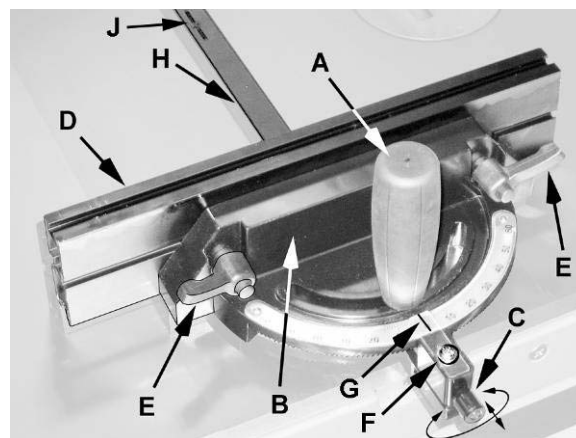

Figure 14
Referring to Figure 14:
The *extension plate* (D, Figure 14) can be adjusted by sliding to the right or left or removed entirely.
1. Place the miter gauge in one of the *slots* (H, Figure 14) on the table top.
2. Set the miter gauge to 90° (0° setting on the scale) by loosening the *lock handle* (A), then pulling the *spring-loaded knob* (C) out and turning the body (B) until 0° is indicated on the scale (G).
Figure 14 repeated